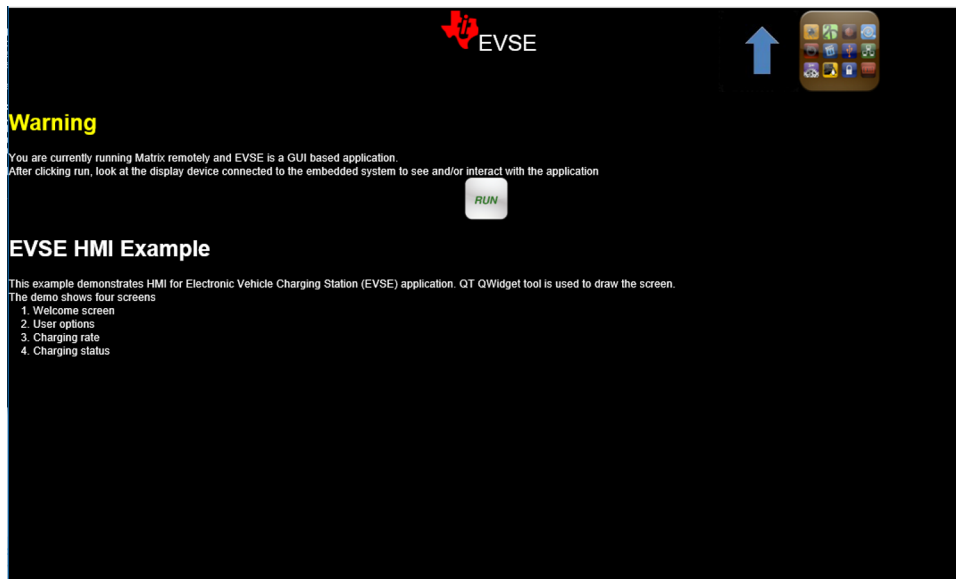

图 8. EVSE HMI Description and Run Screen
3. 图 8 then shows on the screen. Click the *Run* button to launch the EVSE HMI demonstration GUI.